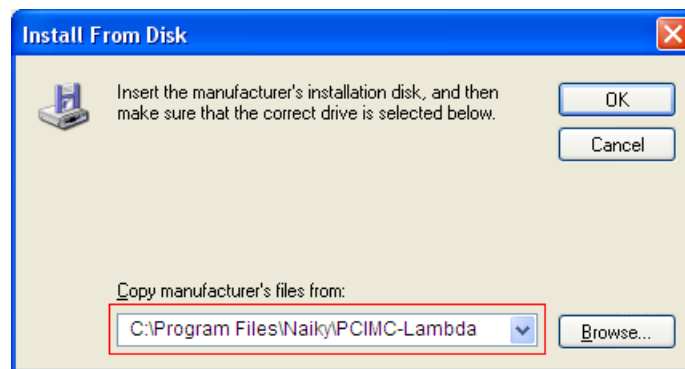

Fig. 2-13 Target file directory confirmation
6. After hardware driver being correctly chosen, click “Open” and a dialog box as shown in Fig. 2-13 will pop up.